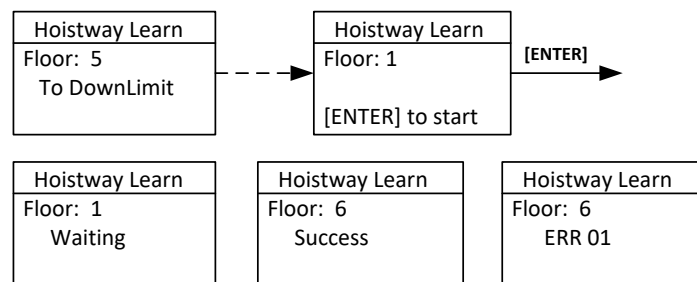

FIGURE 7.4 HOISTWAY PARAMETER SELF-LEARNING PROCEDURES
4. Enter elevator hoistway self-learning menu through digital operator, follow the learning procedures shown below in Figure 7.4